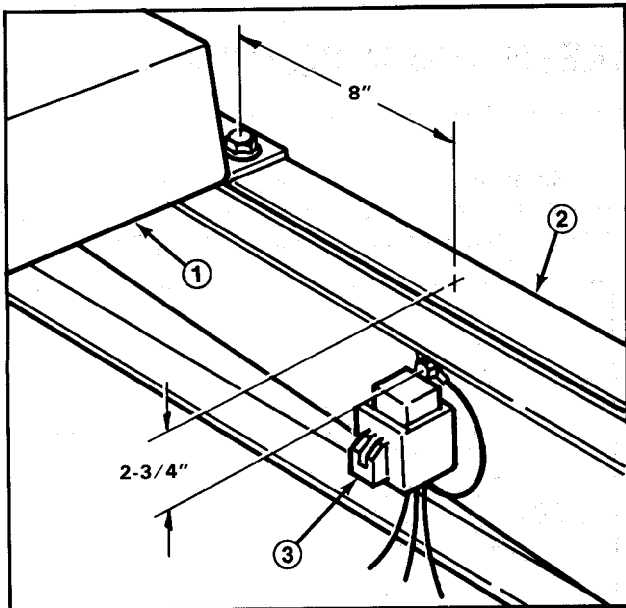

Figure 4
2. Open the hood. On the right hand side, measure and mark approximately 8" back on top of the frame from the center of the rear mounting capscrew for the seat support (Fig. 4).
4. Mount the starter relay. Slip the black starter relay wire onto the self tapping mounting capscrew and insert the capscrew through the starter relay mount bracket. Install an external star washer to the capscrew and secure the starter relay to the inside of the machine frame (Fig. 4).